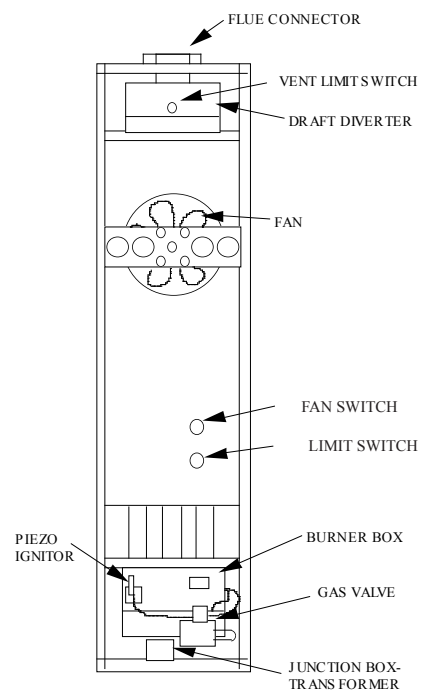

Figure 14
3. To check for line voltage to furnace, remove front panel and short across two-terminal fan control to allow fan to operate (Figure 14).